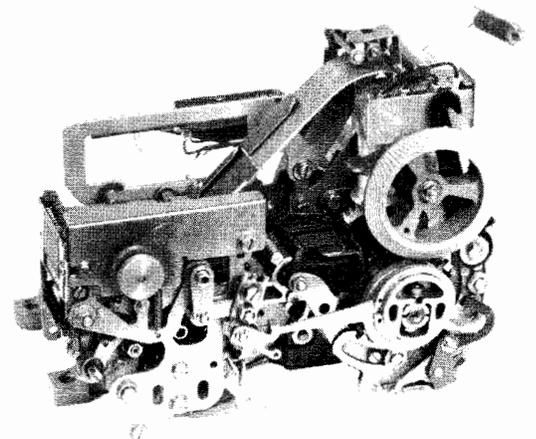

Figure 1 - 37 Nontyping Reperforator
1.01 This section provides lubrication procedures for the 37 nontyping reperforator (Figure 1). It is reissued to incorporate engineering changes and comments received on Issue 1. Since only a limited distribution was made on Issue 1, marginal arrows have been omitted.